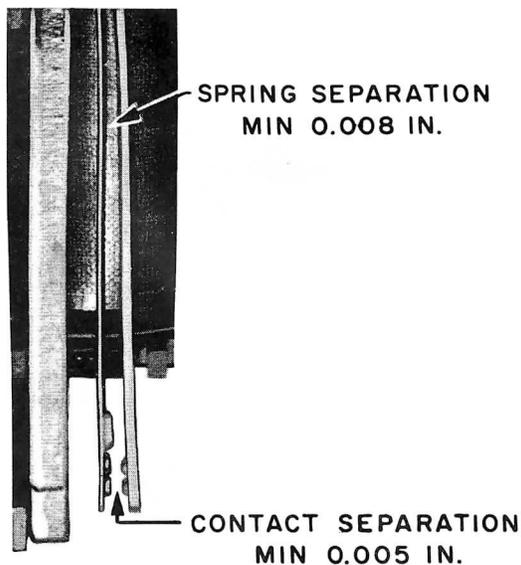

Fig. 5 - Spring and Contact Separation, UA-112 Relay
3.05 The separation between normally open contacts of UA-112 relay should be a minimum of 0.005 inch. The separation between adjacent springs should be a minimum of 0.008 inch. Gauge separations by eye. (See Fig. 5.) All contacts should have a perceptible follow when made.
3.06 On a UA-112 relay the width of the contact surface on each contact bar should fall wholly within the length of its mating bar (Fig. 5).